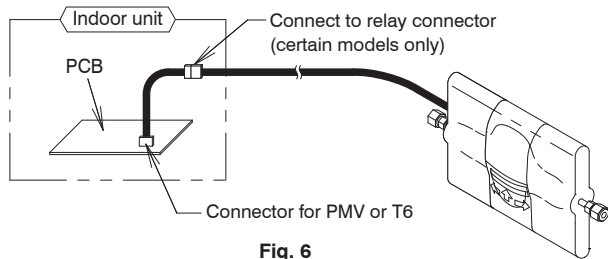

Fig. 6
- Connect the external electronic expansion valve. (Fig. 6)